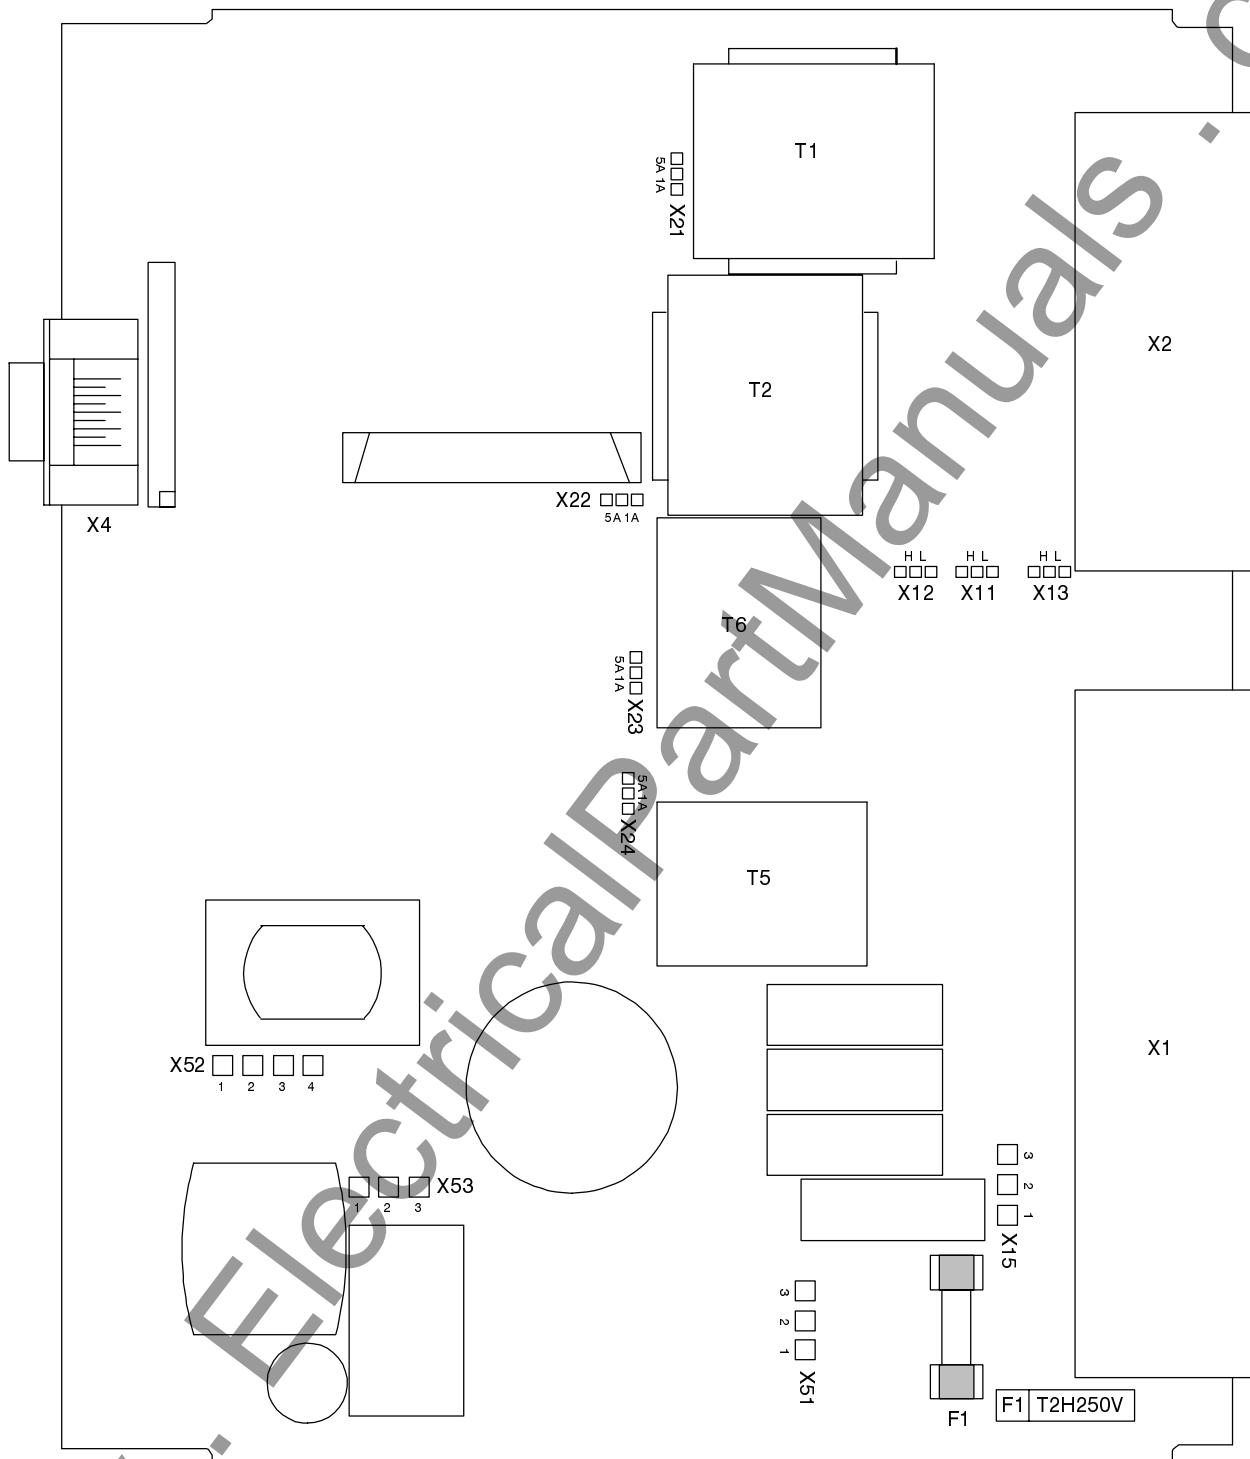

Figure 5.1 CPU-module – illustration of the jumpers on the printed circuit board
Four different ranges of auxiliary voltage can be delivered (cf. Section 2.4 and 3.1). If, for exceptional reason, the rated voltage of the supply input is to be changed, it must be taken into account that the models for rated auxiliary voltage 48/60/110/125 Vdc and 110/125/220/250 Vdc differ from each other by different plug jumpers. The assignment of these jumpers is shown in Table 5.1, their location on the p.c.b. in Figure 5.1. The model for 110/125/220/250 Vdc is suitable for 115 Vac, too. A different model is suited for 230 Vac. When the relay is delivered, all these plugs are correctly located and matched to the specification given on the name plate of the relay, so that, normally, none of the bridges need to be altered.
The current inputs of the relay are matched to the rated current as given on the name plate of the relay according to the order designation. The rated current is considered by correct location of plug jumpers on the p.c.b. The assignment of these jumpers is shown in Table 5.2 and their location on the p.c.b. is shown in Figure 5.1. When the relay is delivered, all these plugs are correctly located and matched to the specification given on the name plate of the relay, so that, normally, none of the bridges need to be altered.
A jumper position is changed to adjust the pick-up voltage of a binary input. Table 5.3 shows the assignment of these jumpers, Figure 5.1 their location on the p.c.b.
- Check the solder bridges according to Figure 5.1.